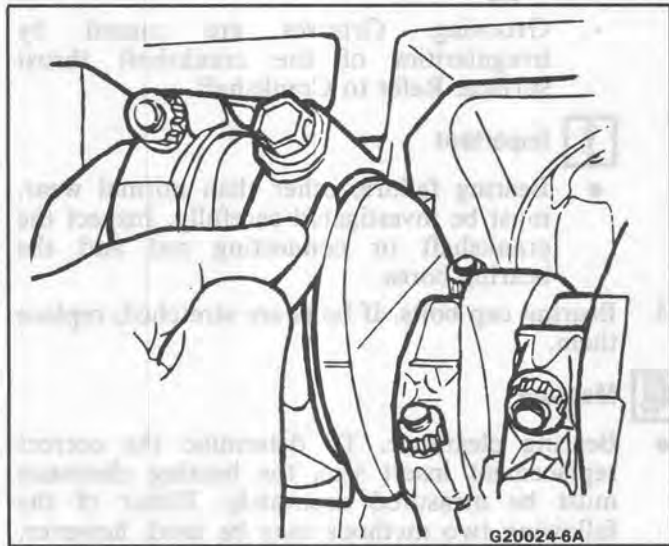

Figure 28 Measuring Crankshaft End Play
- Crankshaft end play (Figure 28)